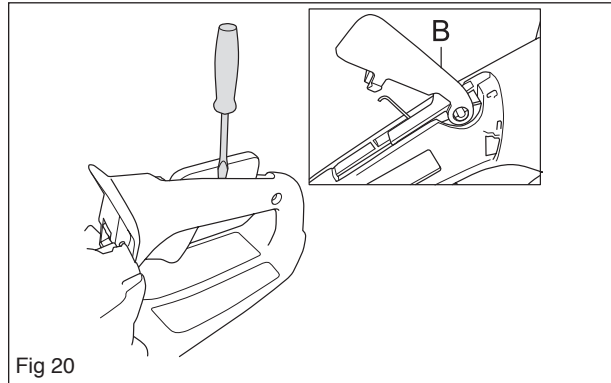

Fig 20
Loosen the throttle control lock (B) as shown in the figure using a screwdriver or similar tool. Remove it then from the shaft in the handle. See figure 20.